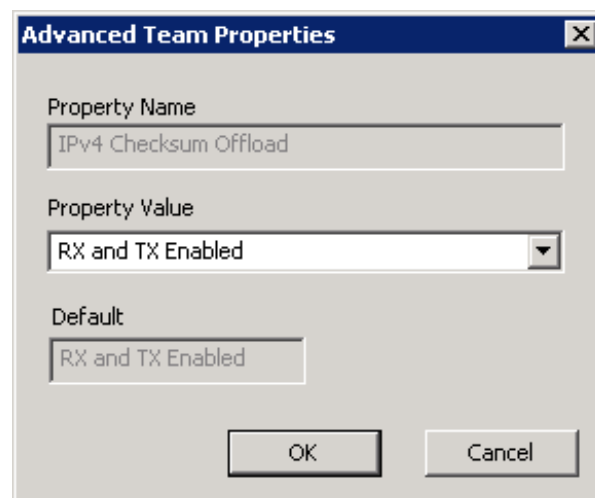

Figure 2-13. Modifying Advanced Team Properties
3. In the **Advanced Team Properties** dialog box (Figure 2-13), specify a new property value, and then click **OK**.